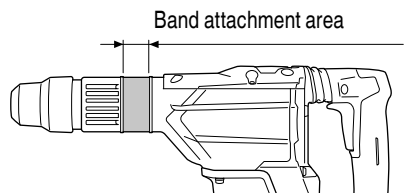

Fig. 3
- (2) Place the band over the band attachment area and fit the band's two holes onto the "T" portion of the handle bolt. (Fig. 3, 4)